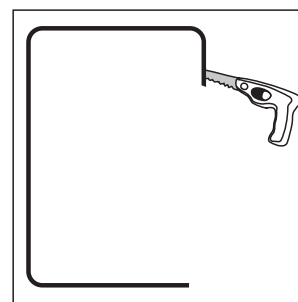

FIGURE 11
- Carefully cut the hole with the appropriate cutting tool for your wall or ceiling material. Start the hole by drilling a hole on the inside of the tracing (with the drill bit touching the line). Use this hole to insert the saw or knife and begin cutting [figure 11].